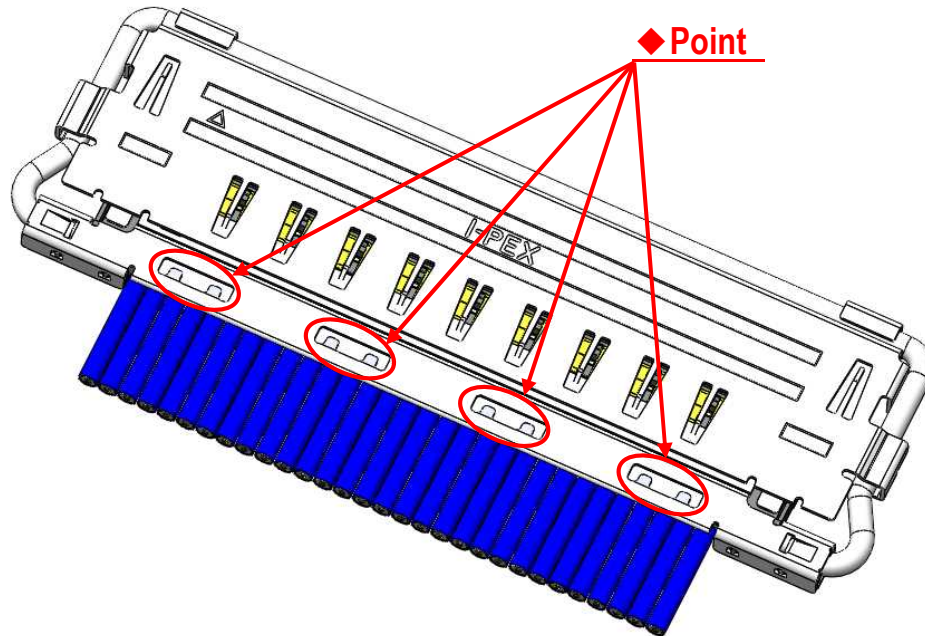

Fig.10 Soldering of SHELL-A and GND BAR
- ④ Soldering SHELL A, B and GND BAR with the soldering iron at all designated points is recommended. (Fig.10,12 ◆point)